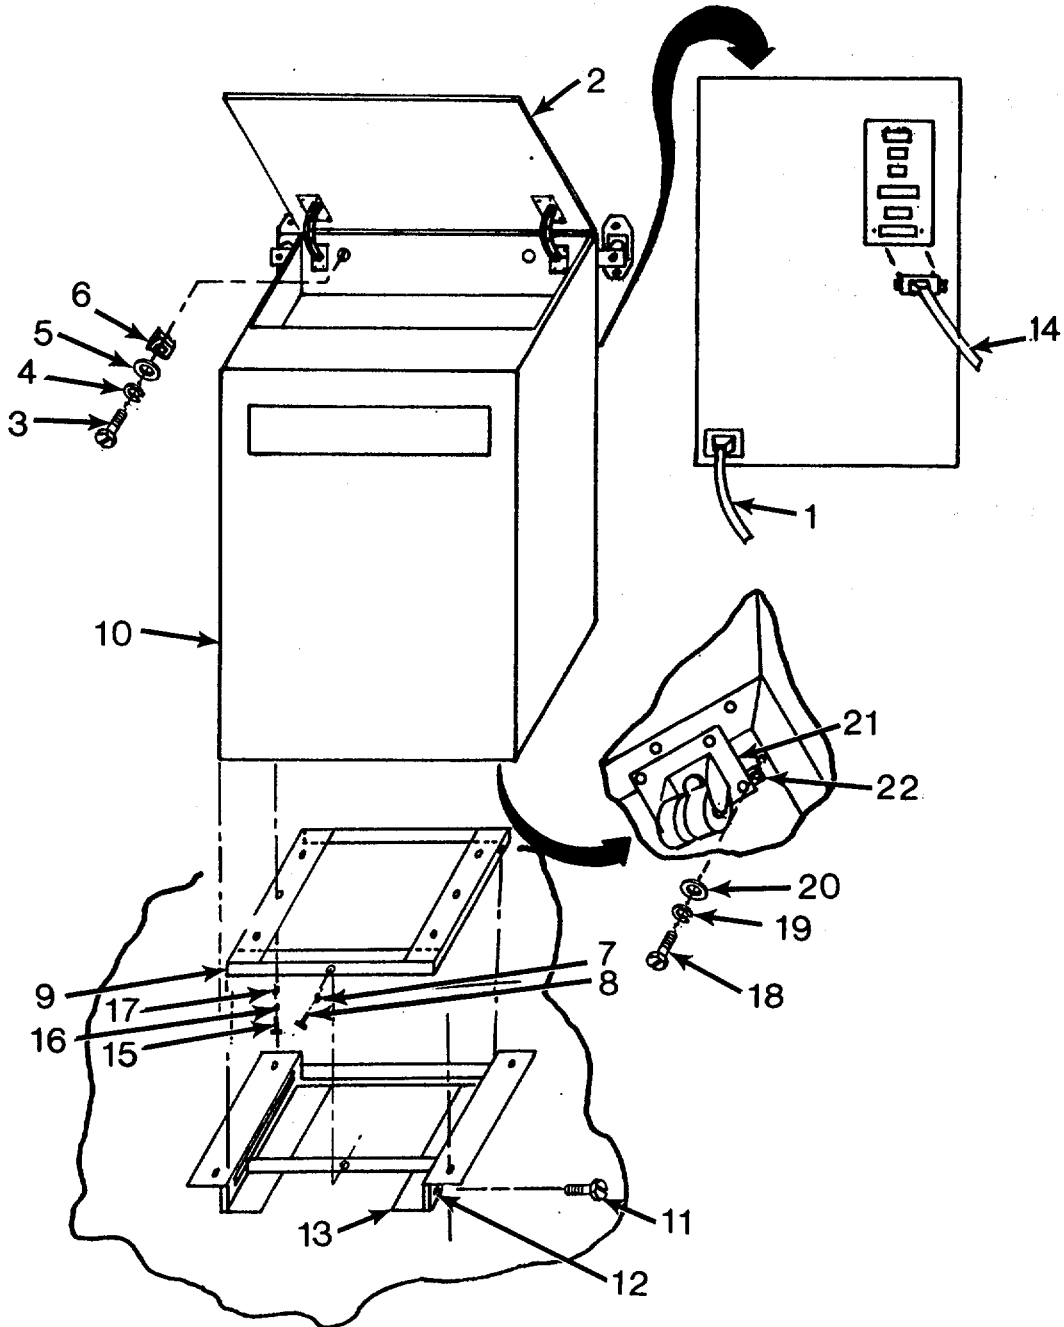

Figure 4-32. Digital Slave Typesetter Mounting
b. Replace Digital Slave Typesetter. (See Figure 4-32.)
- (1) Disconnect power cord (1).
- (2) Open top of typesetter (2).
- (3) Remove bolts (3), lockwashers (4), flat washers (5) and backing plate (6).
- (4) Remove thumbscrew (7) and flat washer (8) from upper bracket assembly (9).
- (5) Slide digital slave typesetter (10) forward until screws (11) align with holes (12) in front end of bottom support brackets (13), and remove screws (11).
- (6) Roll digital slave typesetter forward and remove communications cable (14).
b. Replace Digital Slave Typesetter. - Continued (See Figure 4-32.)
(9) Lay replacement digital slave typesetter(10) on side and install spacers (22), casters (21), flat washers (20), lockwashers (19), and bolts (18).
(10) Install upper support bracket assembly (9), flat washers (17), lockwashers (16), and screws (15).
(11) Install communications cable (14) and raise digital slave typesetter to standing position.
(12) Align holes in upper support bracket (9) with holes (12) in bottom bracket (13) and install screws (11).
(13) Slide digital slave typesetter (10) into position and install flat washer (7) and thumbscrew (8).
(14) Raise top (2) and install backing plate (6), flat washers (5), lockwashers (4), and bolts (3).
(15) Connect power cord (1).
f. Repair. (See Figures 4-32, 4-33, 4-34, and 4-35.) Repair of the phototypesetter assembly consists of replacing components of the mounting assemblies. For operation and repair of the phototypesetter assembly, refer to TM 5-3610-302-12 and 20P.